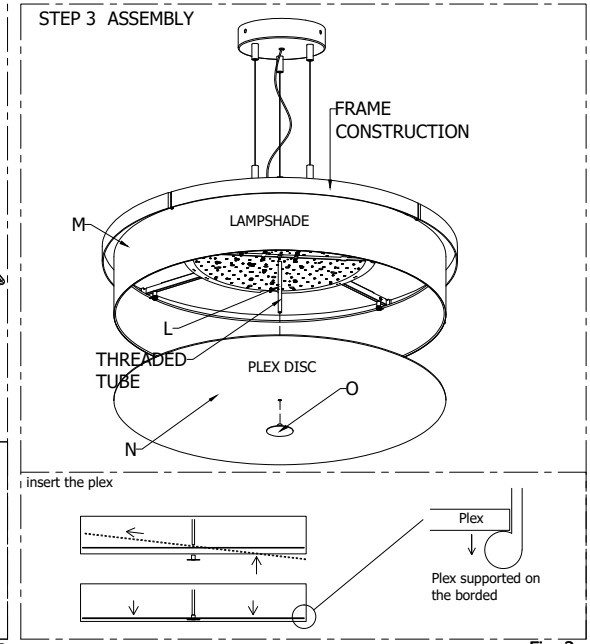

Fig. 3
- Place the plex (N) inserting it inside the lampshade (M) and then placing it by falling to the inside edge of the lampshade itself, screw the terminal disk (O) to the pipe (L) (FIG.3)